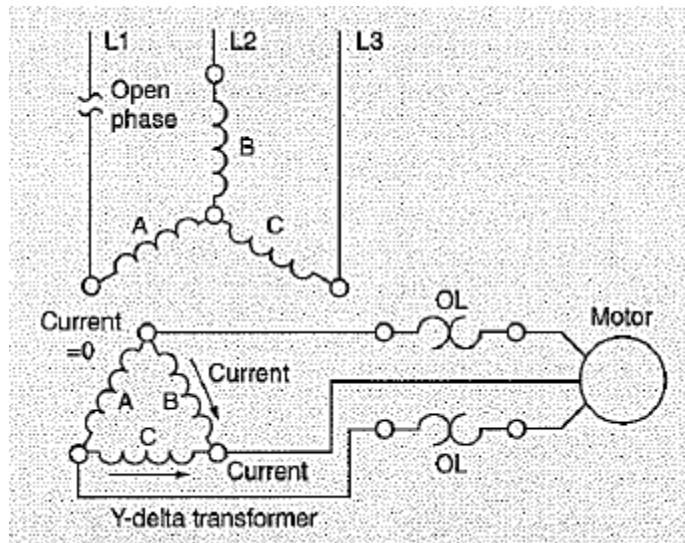

Figure 6.15: Unprotected Phase in a Motor
- 6-81 It is not unusual for three-phase motors to continue running after one phase has been lost. This condition is commonly called *single phasing*. An open phase in the primary of a Y-delta or delta-Y transformer serving a motor causes approximately twice the rated current to appear in one phase of the motor if the motor continues to run. If the phase carrying the high current lacks overcurrent protection, as shown in Fig. 6-15, the single-phasing motor can be seriously damaged.